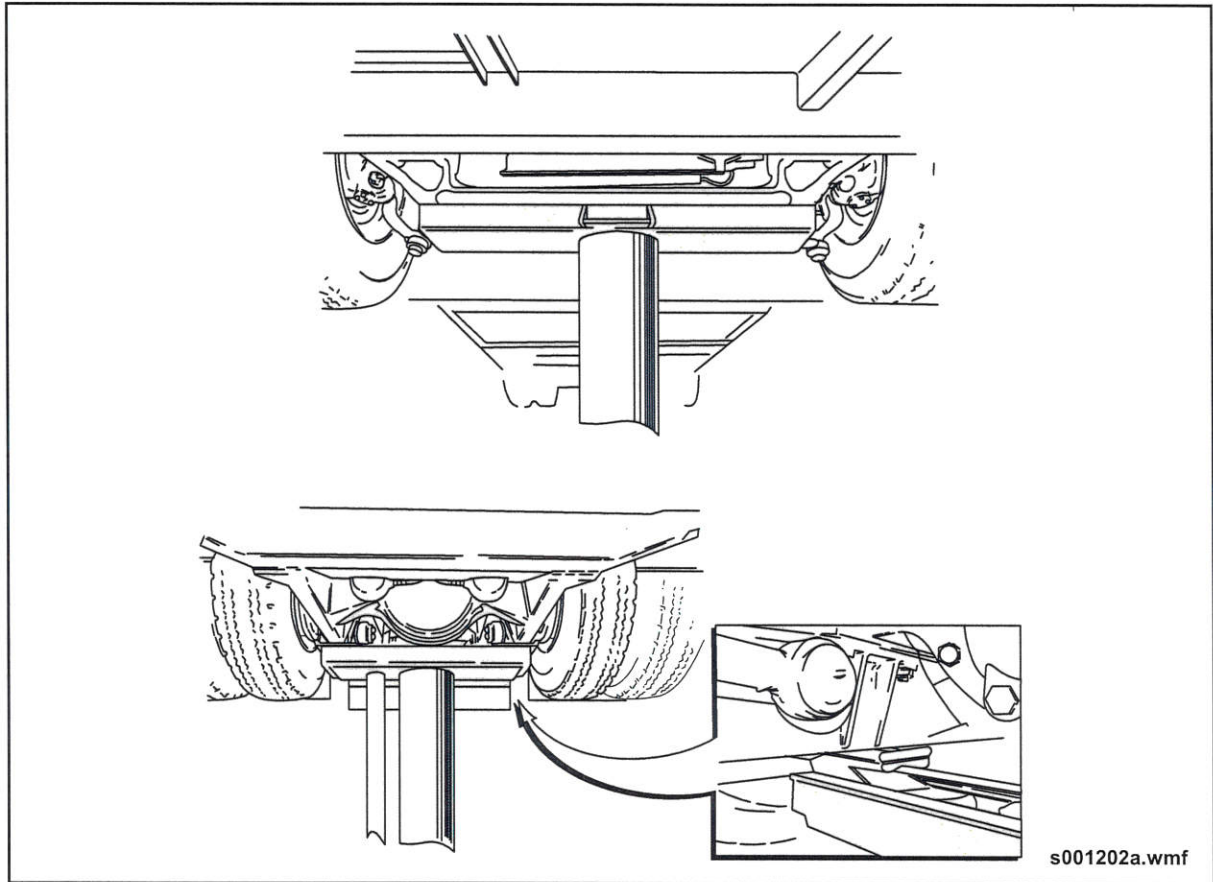

Fig. GI-19: Typical Center Post Hoist
1. Position vehicle over hoist and align hoist posts and adapter pads so these will contact the designated points. See "Fig. GI-19: Typical Center Post Hoist" on page 37.